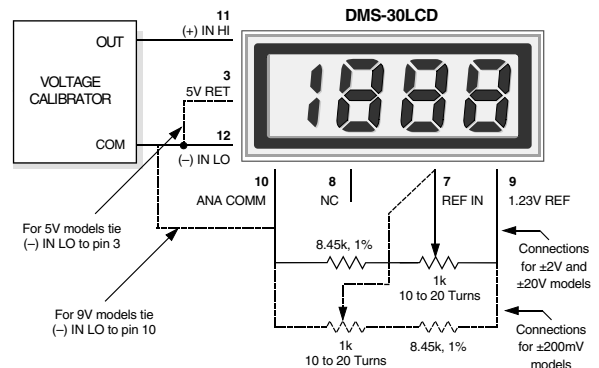

Figure 9. External Gain Adjustment
7. Gain Adjust: There is a gain-adjust potentiometer on the back of each meter. It has approximately ±50 counts (±2.5%) of adjustment range. Since these devices essentially have no zero/offset errors, a gain adjustment is effectively an overall accuracy adjustment. Though they may be performed at any point (except zero), accuracy adjustments are most effective when performed with higher level input signals. Refer to Figure 9 for applications requiring greater (±10%) gain adjustments.
7. **External Gain Adjustment:** Connect REFERENCE OUT (pin 8) to REFERENCE IN (pin 7) for normal, factory calibrated, operation. Use the +1.23V REFERENCE OUT (pin 9) for applications needing external gain adjustment. Figure 9 shows the wiring configuration for each model. Calibration is performed with a precise, near-full-scale, input voltage.